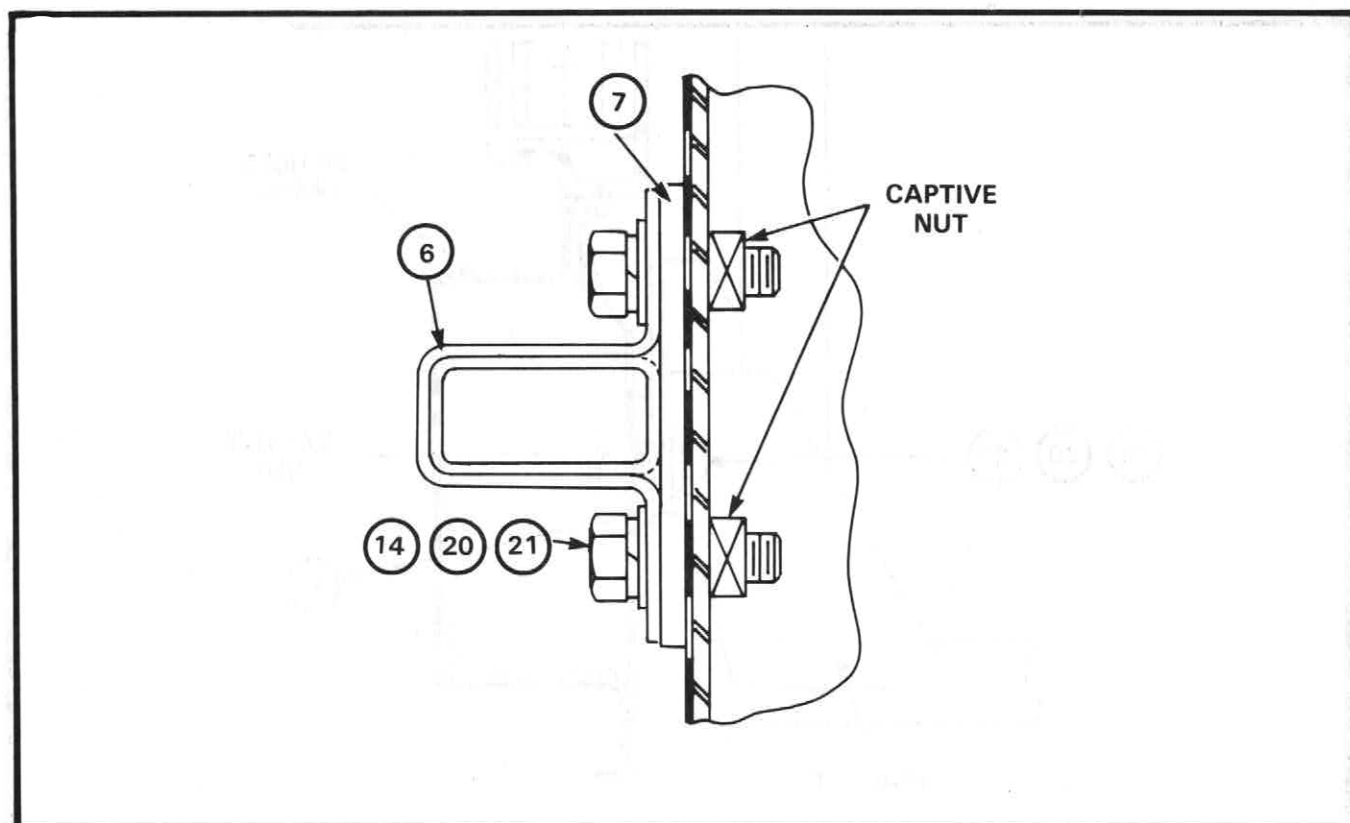

Figure 2 Installation of Wheel Carrier Upper Mounting Clamp
- b. See Figure 2. Install the spacer (7) and clamp (6) and secure using two flat washers (20), lock washers (21) with screws (14).